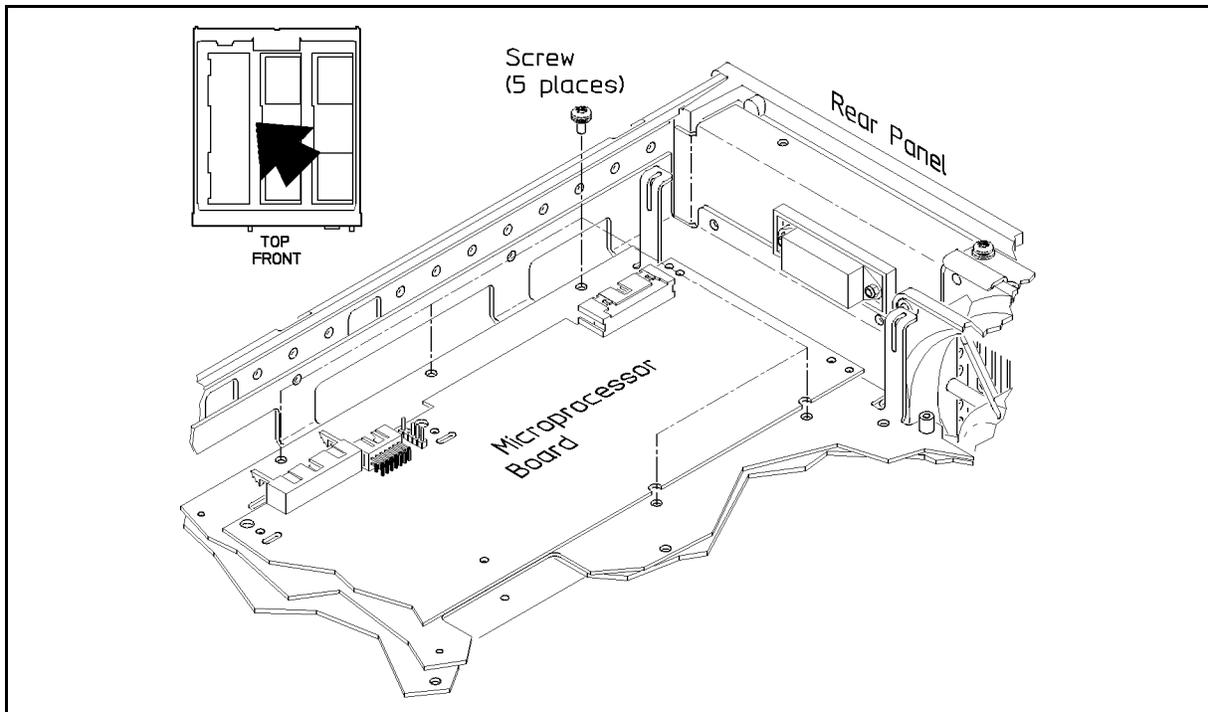

Figure 5-9. Power Supply Screws
1. Using a size 10 TORX® screwdriver, remove the five screws connecting the power supply to the frame (as marked on the frame). It may be necessary to remove the microprocessor board to access the screws. See Figure 5-9.